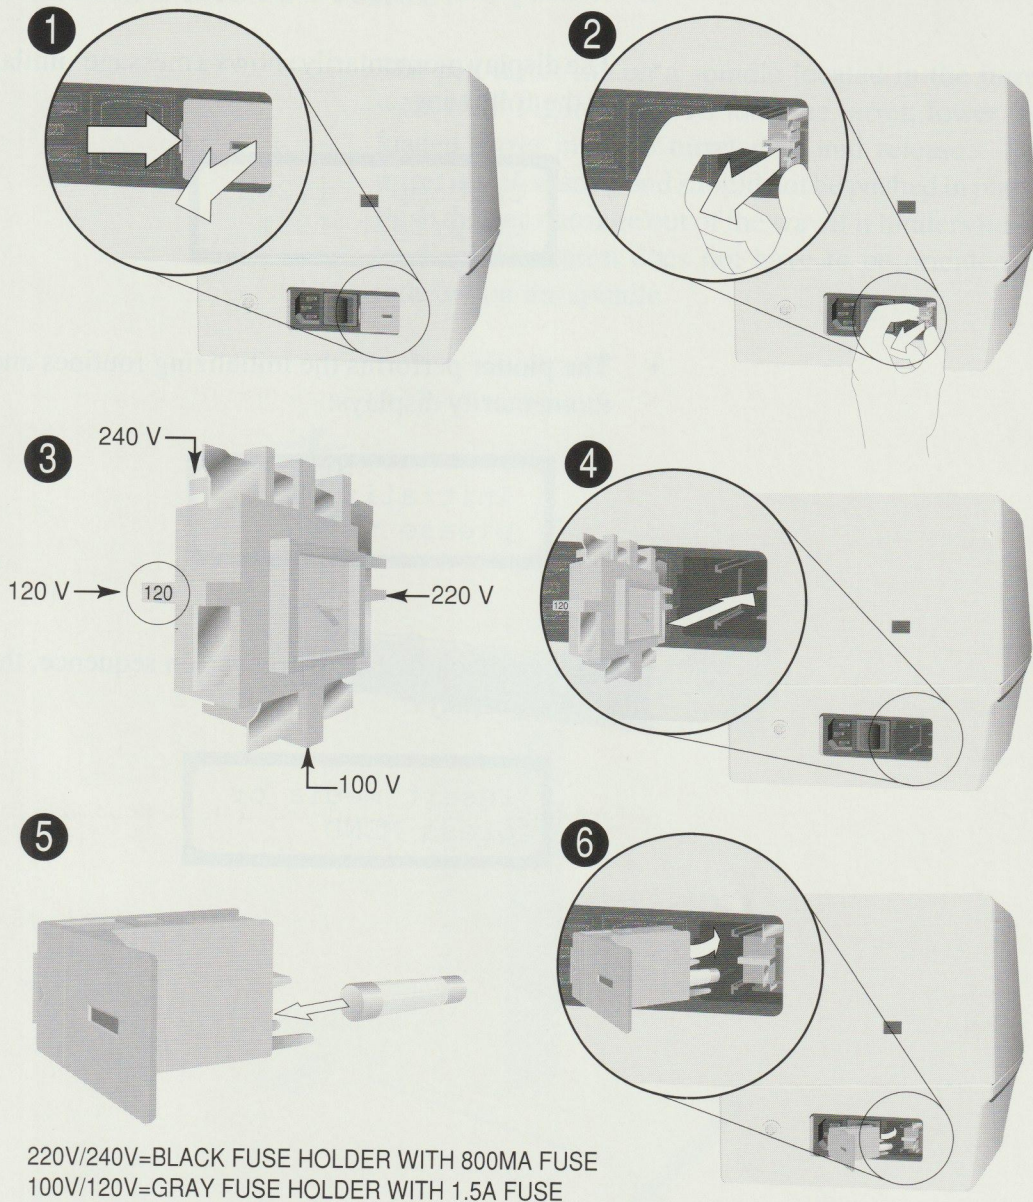

Figure 1-2. Input Voltage Selector and Fuse Installation
The plotter is shipped with the voltage selector in the input power module set to 240V (black fuse holder). The 100V/120V fuse holder (gray) and fuses (1.5A) are in the plotter box. See Figure 1-2 to set the input voltage selector and install the correct fuse for your input voltage.
1. Check that the number showing through the small window in the fuse holder matches the input voltage. See Figure 1-2 if it is necessary to change the voltage selector setting.